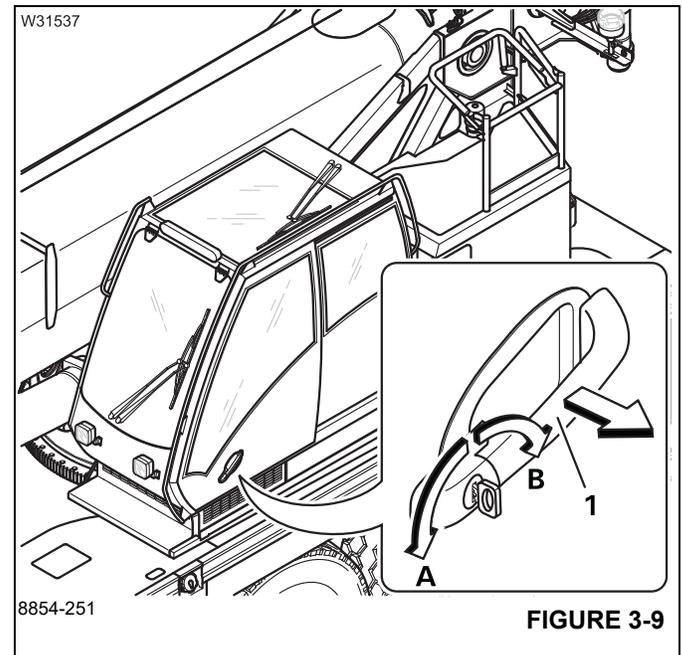

FIGURE 3-9
- Turn the key in direction A (Figure 3-9).
- Pull the handle (1).